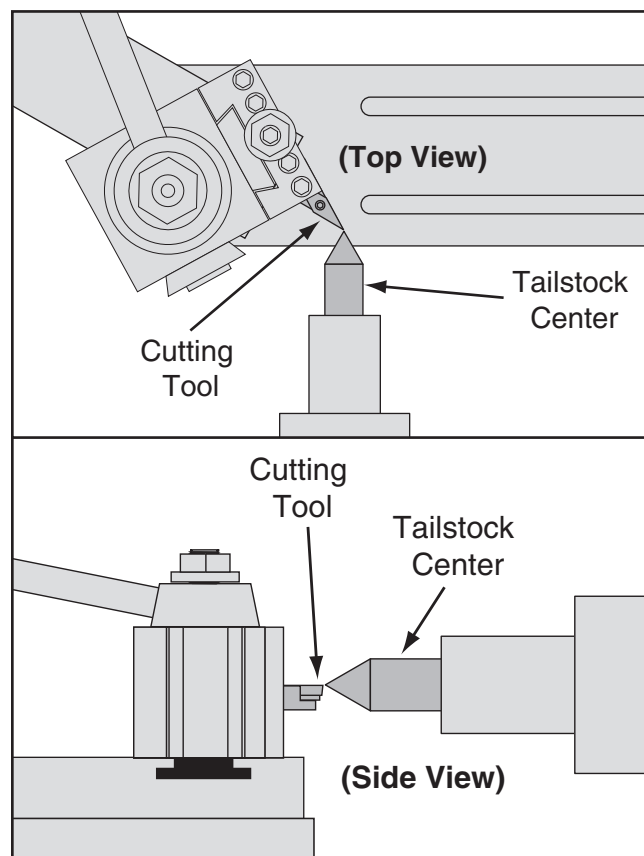

Figure 56. Cutting tool aligned to the tailstock center.
4. Adjust height of cutting tool tip to meet center tip, as shown in **Figure 56**.